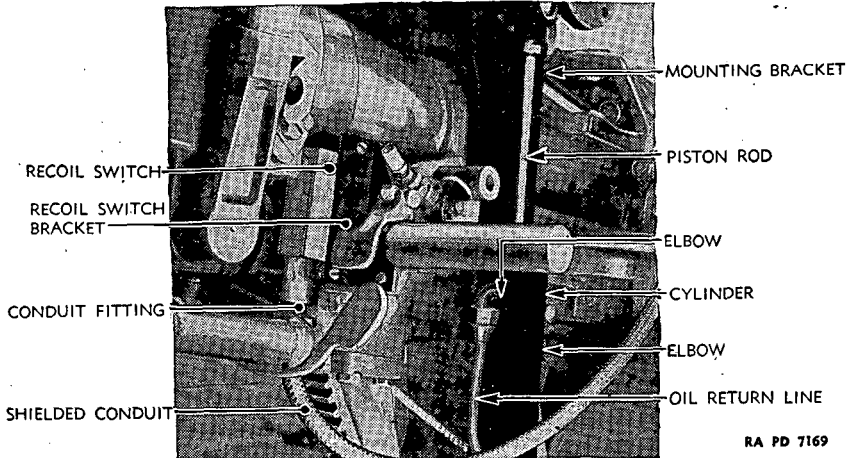

FIGURE 107.—Recoil switch, cylinder, and mounting bracket mountings, gyro-stabilizer unit.
(7) Reconnect the wiring and remount the switch.
(8) Adjust the recoil switch in the following manner: When the switch is mounted as shown in figure 107, the gun pushes in the plunger so the contacts are open. When the gun is in battery position (fig. 107), the plunger must be pushed in approximately one-half of its total travel. If the plunger is not pushed in sufficiently, it will be necessary to place a shim between the switch mounting bracket and the rear machine-gun bracket. If the plunger is pushed in too far, it will be necessary to elongate slightly the two holes which are used for mounting the switch to the bracket. This will allow the switch to move toward the muzzle of the gun the desired distance as determined by the elongation of the holes. Be sure to tighten the mounting screws as tightly as possible so the switch will not shift.